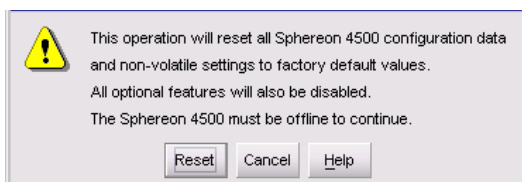

Figure 4-67 Reset Configuration Dialog Box
5. Select the *Reset Configuration* option from the *Maintenance* menu. The *Reset Configuration* dialog box displays (*Figure 4-67*).